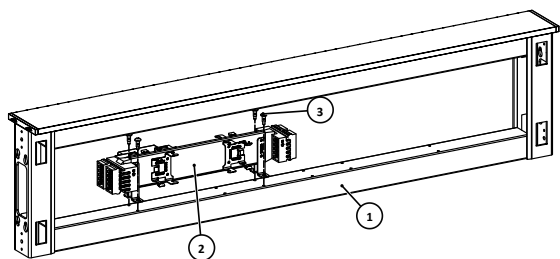

Figure 1
STEP 1: Secure the power distribution box (2) using four screws (3), as illustrated in Figure 1.